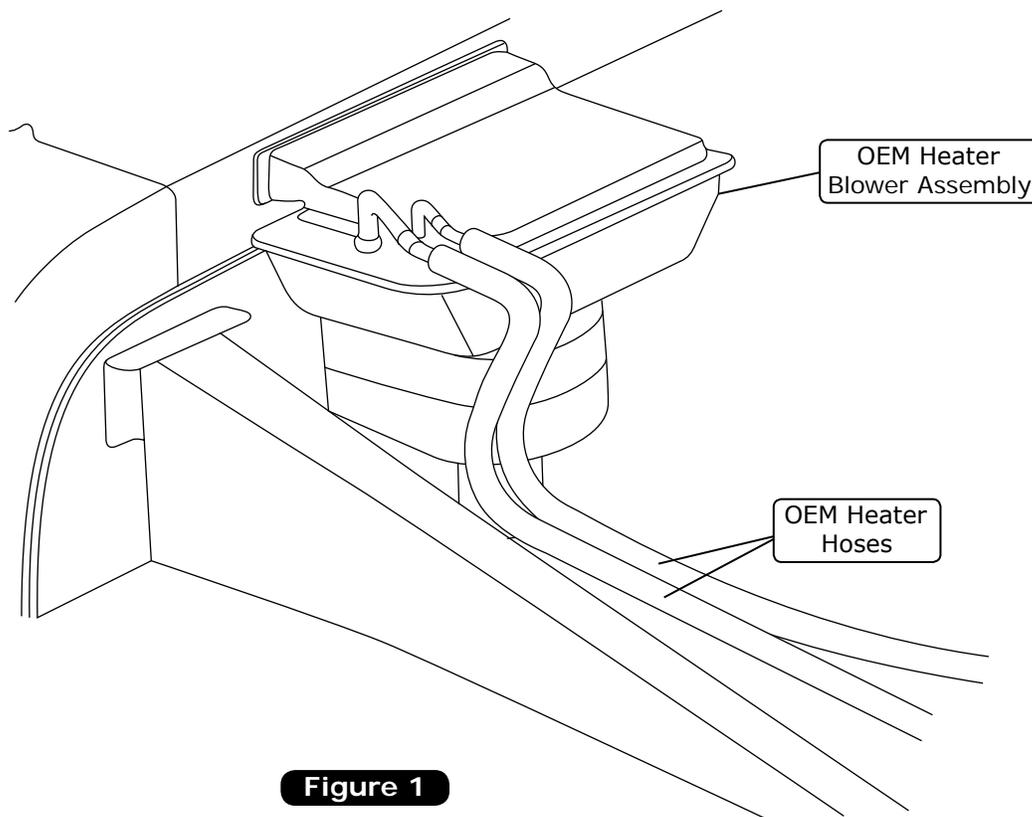

Figure 1
4. Remove the heater blower assembly and the OEM heater hoses (discard) (See Figure 1, below).